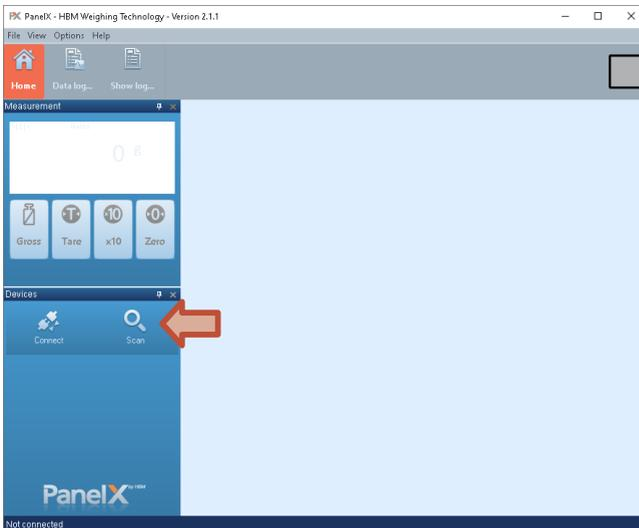

Fig. 6.1 Accessing the Scan dialog
- ▶ Click on **Scan** (*Fig. 6.1 on page 15*).